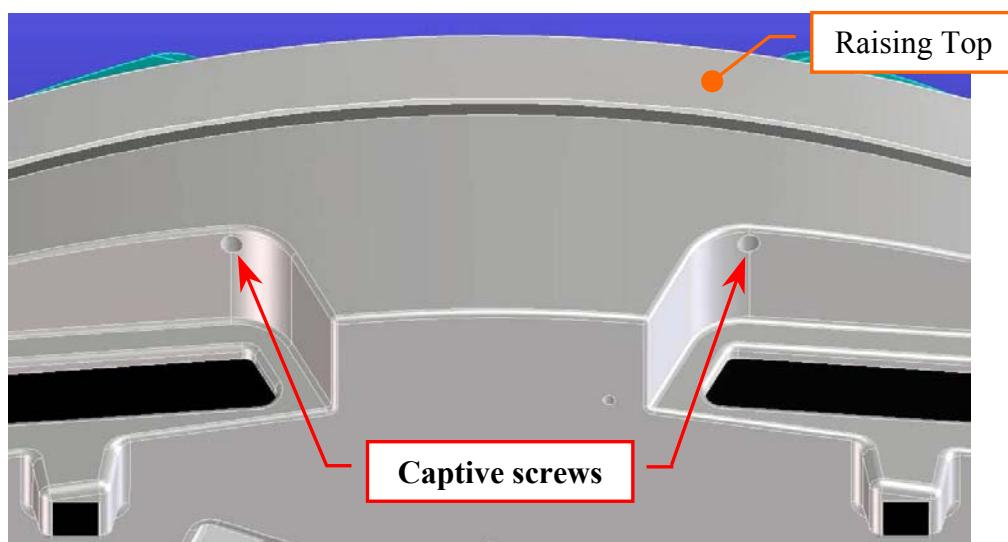

Fig. 6 – Captive screws on the front underside of the instrument
- v. unscrew the two captive screws on the front underside of the instrument (**Fig. 6**) and lift up the Raising Top (**Fig. 7**);
- aa. bring down the Raising Top (**Fig. 7**) and screw the two captive screws on the front underside of the instrument (**Fig. 6**);
3. Unscrew the two fastening screws of the Diluter cover (**Fig. 7**), remove it from its housing, unscrew the two captive screws on the front underside of the instrument (**Fig. 6**) and lift up the Raising Top (**Fig. 7**).